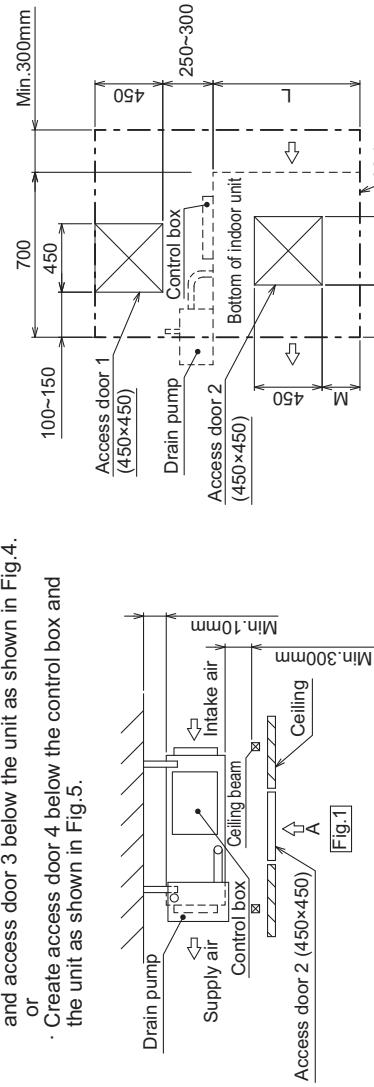

Fig.1
- (1) When a space of 300mm or more is available below the unit between the unit and the ceiling. (Fig.1)
(1) When a space of 300mm or more is available below the unit between the unit and the ceiling. (Fig.1)